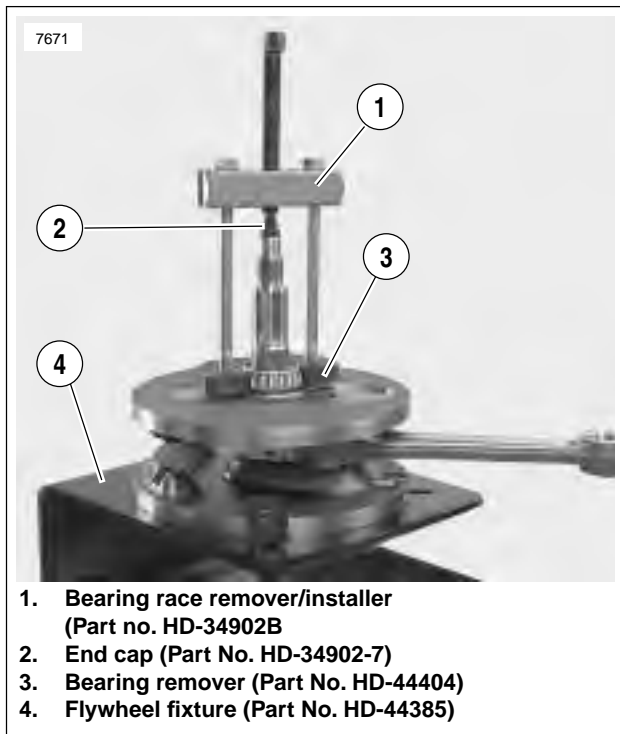

Figure 3-123. Removing Sprocket Shaft Roller Bearing
11. See Figure 3-123. Place flywheel assembly in FLYWHEEL SUPPORT FIXTURE (Part No. HD-44385). Pull sprocket shaft bearing with SPROCKET SHAFT INNER TIMKIN BEARING REMOVER (Part No. HD-44404) and BEARING RACE REMOVER/INSTALLER (Part No. HD-34902B).